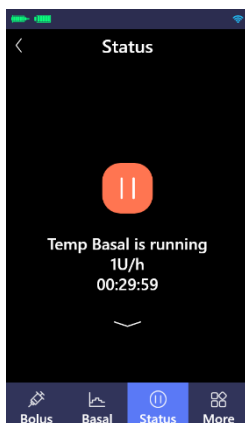
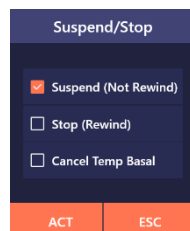

Figure 15.2
Figure 15.3
(2) After the delivery at the temp basal starts, the status interface will display the current temp basal and the remaining delivery time (as shown in Figure 15.2).
(3) If you need to suspend/stop/cancel the temp basal, please click "⏸" on the status interface (as shown in Figure 15.2), you can choose to suspend/stop/cancel the temp basal in the pop-up interface (as shown in Figure 15.3).